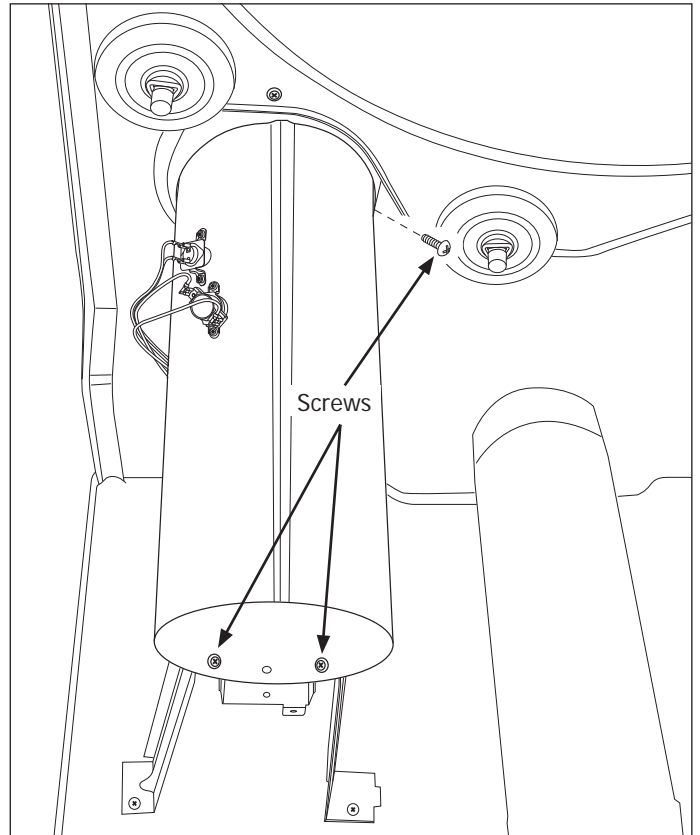

Figure 4-46.
4. Using a #2 square bit screwdriver, extract the two screws at the front of the combustion tube and the single screw at the right rear. (See Figure 4-46)